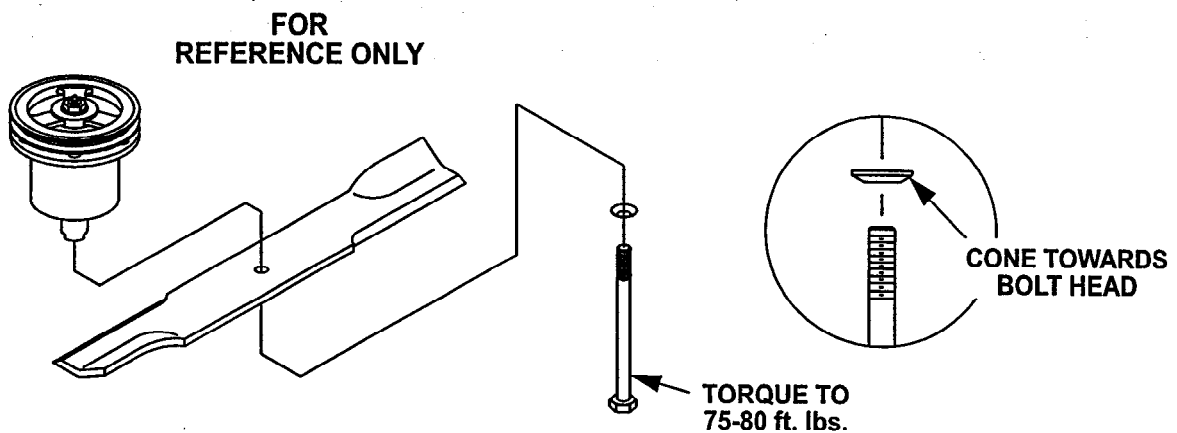

FIG. 15
- g) Re-install the blades (if they were removed) and torque blade bolts to 75-80 ft/lbs. Be sure the spring disc washer cone is installed toward the bolt head (See Figure 15).